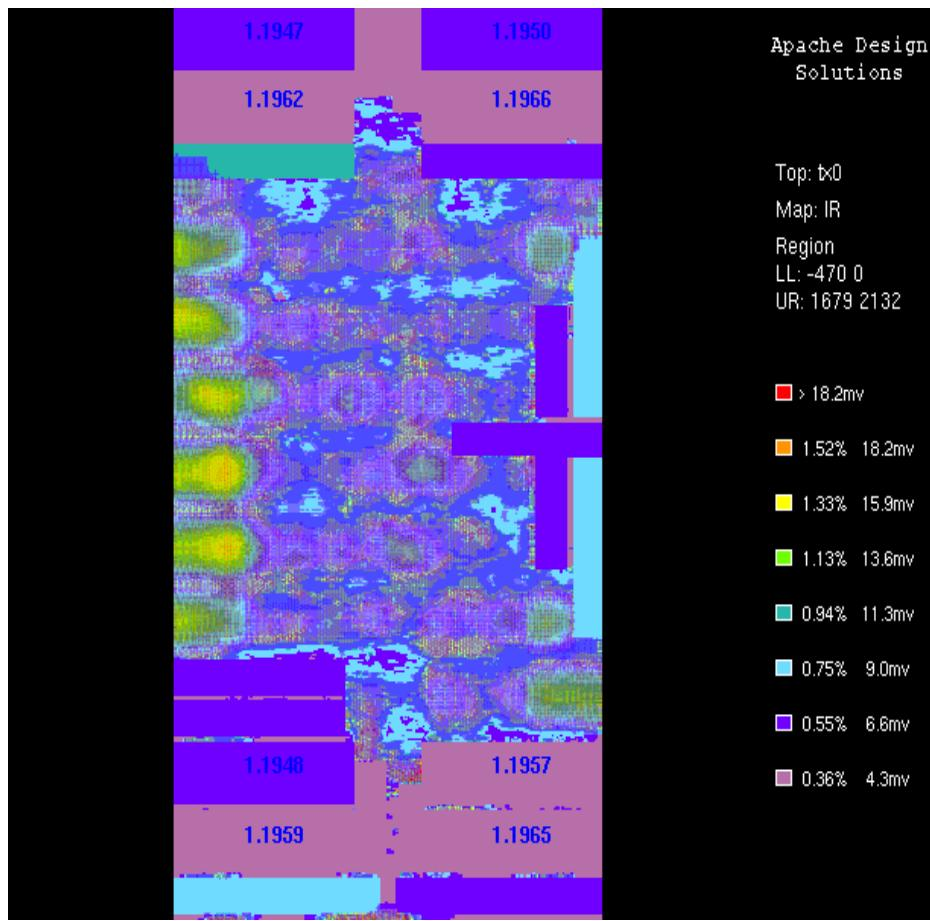

Figure 7-10 Static IR drop map after FAO operations
3. The screen and log file output summarizing the results from this run is shown below, and are shown graphically in Figure 7-10.